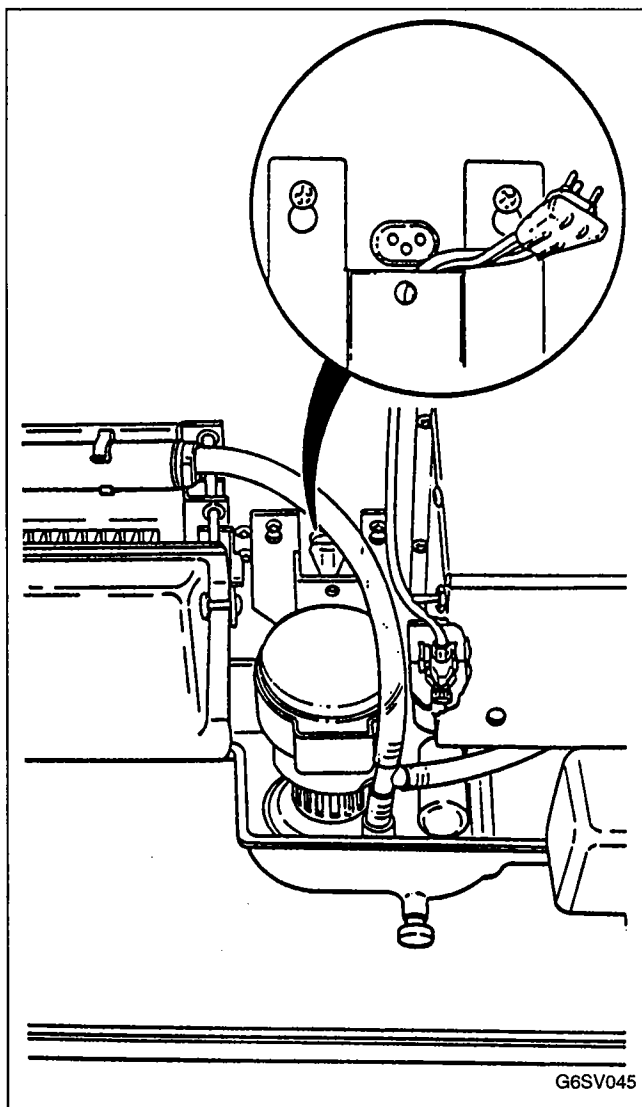

FIGURE 47. WATER PUMP CHECK
2. Unplug the water pump, Figure 47.
3. Set ICE/OFF/WATER PUMP switch at WATER PUMP and check voltage at water pump electric plug receptacle, Figure 47.